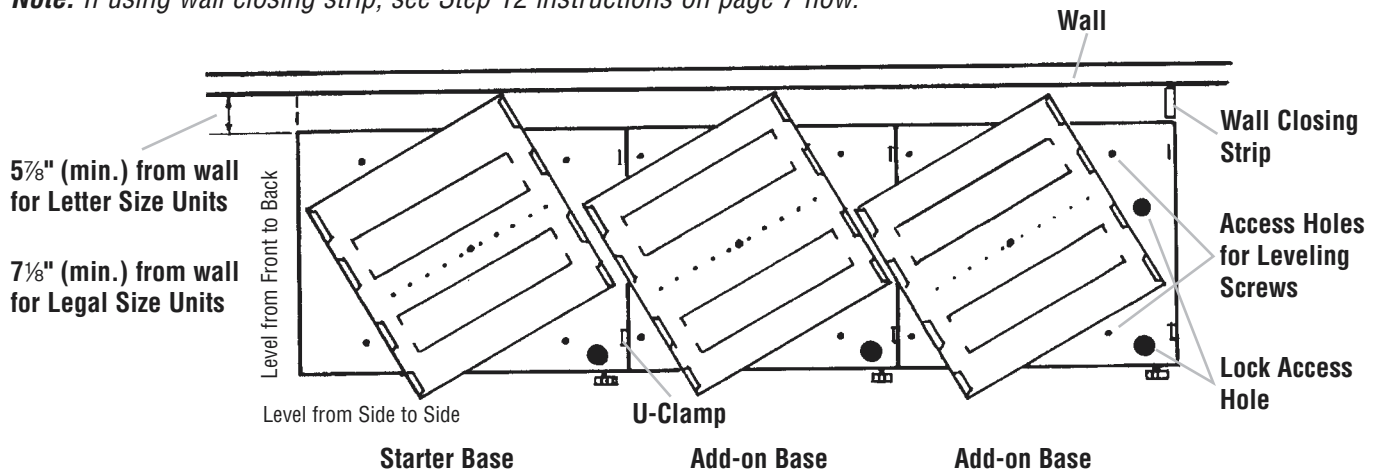

Figure 3 - Base Layout
STEP 2 - BASE LAYOUT (Figure 3)
Position Bases as shown in Figure 3: 5⁷/₈" (min.) from wall for Letter Size Units, 7⁷/₈" (min.) from wall for Legal Size Units.
- Turn all rotor bottoms in the same direction to expose holes for access to the leveling screws (Figure 3).